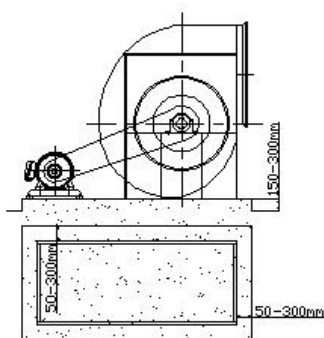

图5
(1)混凝土基础平面尺寸至少比风机底盘外缘尺寸大150~300毫米。小型风机基础区小值,但基础厚度至少150毫米,基础承重量约按大于通风机总重量的5~10倍考虑(图5) The concrete basic plane size than the size of fan border 150~300 mm. The basic area of small fan small value, but the thickness of the base of at least 150 mm, base bearing weight by about 10 times greater than the total weight of the fan 5 to consider (Figure 5).